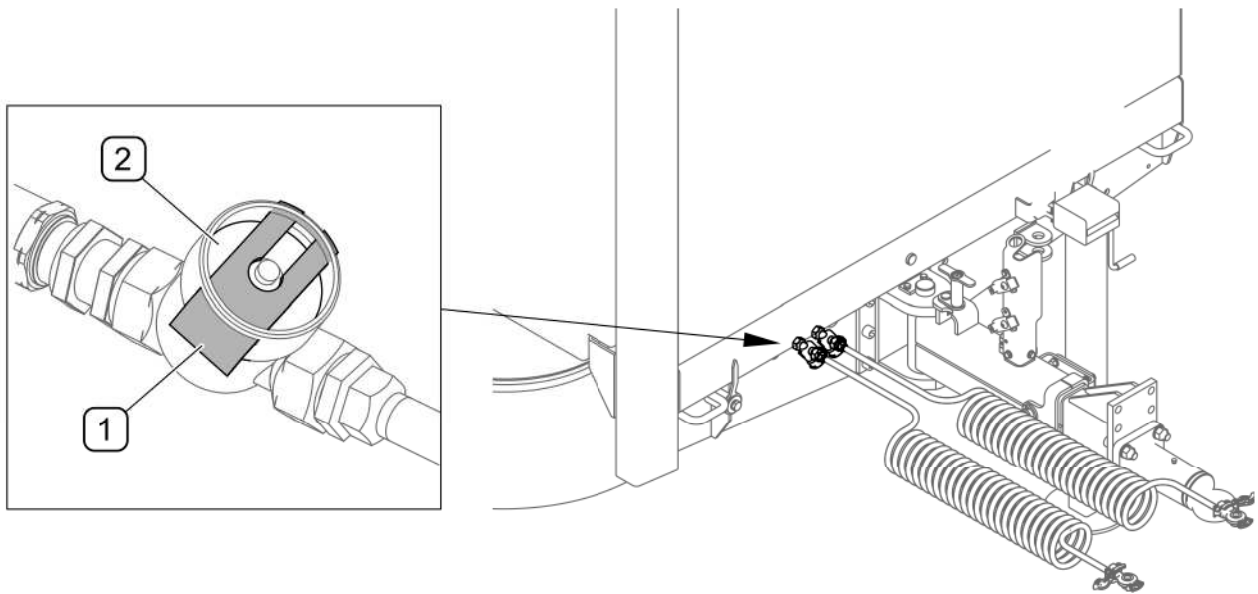

FIG. 5.26 Air filters
(1) - securing slide lock; (2) - air filter cover
Depending on machine working conditions, but not less than once in three months, take out and clean air filter (FIG. 5.26) cartridges, which are located in pneumatic system connection lines. Inserts are used many times and are not subject to changing unless they are mechanically damaged. In order to clean cartridge first reduce pressure in supply line. Next, remove securing slide (1); hold the filter cover with the other hand. After removing slide lock (1), the cover is pushed off by the spring, in the filter housing. The insert and the filter body should be carefully washed out and blown through with compressed air. Install in reverse order.
The insert and the air filter body (FIG. 5.26) should be cleaned at least every 3 months of machine use.
Before proceeding to disassemble filter (FIG. 5.26), reduce pressure in supply line. While disengaging filter slide gate, hold cover with other hand. Stand away from filter cover vertical direction.